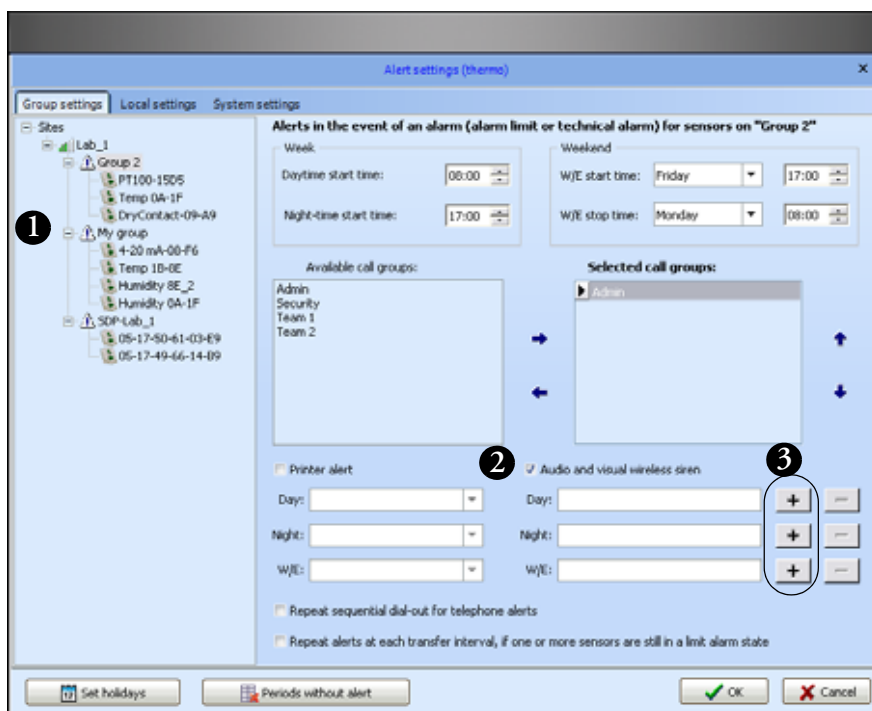

Figure 87. Adding a wireless siren to your system
2. To add a wireless siren, click on the desired group or receiver (#1 in Figure 87).